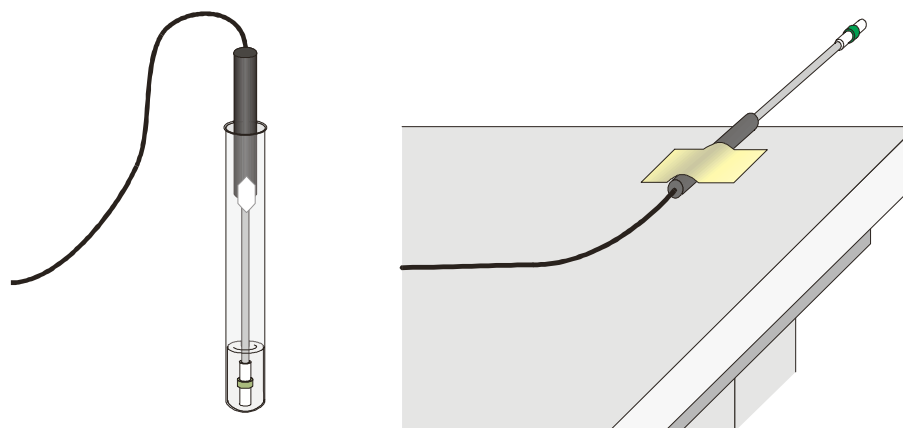

Figure 1
6. Wrap Probe 1 and Probe 2 with square pieces of filter paper secured by small rubber bands as shown in Figure 1. Roll the filter paper around the probe tip in the shape of a cylinder. Hint: First slip the rubber band up on the probe, wrap the paper around the probe, and then finally slip the rubber band over the wrapped paper. The paper should be even with the probe end.
9. After the probes have been in the liquids for at least 30 seconds, select START to begin collecting temperature data. A live graph of temperature vs. time for both Probe 1 and Probe 2 is being plotted on the calculator screen. The live readings are displayed in the upper-right corner of the graph, Probe 1 first, Probe 2 below. Monitor the temperature for 15 seconds to establish the initial temperature of each liquid. Then simultaneously remove the probes from the liquids and tape them so the probe tips extend 5 cm over the edge of the table top as shown in Figure 1.
10. Data collection will stop after 4 minutes (or press the $\boxed{\text{STO}}\blacktriangleright$ key to stop *before* 4 minutes has elapsed). On the displayed graph of temperature vs. time, each point for Probe 1 is plotted with a dot, and each point for Probe 2 with a box. As you move the cursor right or left, the time (X) and temperature (Y) values of each Probe 1 data point are displayed below the graph. Based on your data, determine the maximum temperature, t_1 , and minimum temperature, t_2 . Record t_1 and t_2 for Probe 1.